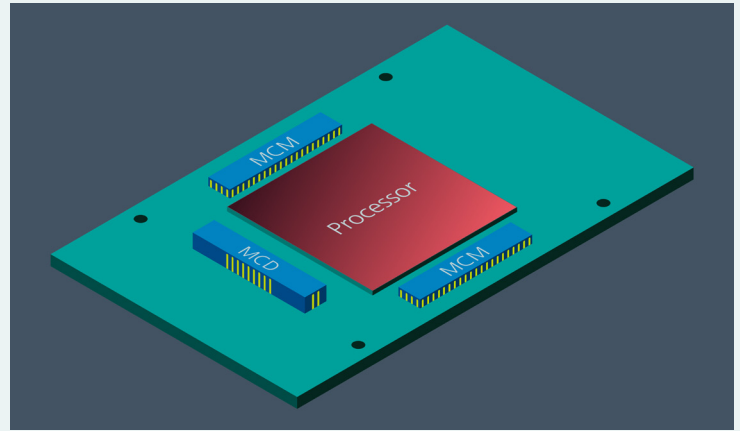

Figure 4: Power delivery network for advanced AI processors delivering 500A+ at sub-1V
When artificial intelligence (AI) processor power system designers wanted to maximize their processor performance on an AI accelerator card, they turned to Vicor. Power performance requirements for the processor called for the delivery of 500A+ at a sub-1V level (Figure 4). In addition, the power delivery network needed to fit within the industry-standard Open Compute Platform OAM card, pushing the power density limits of conventional multiphase buck regulators.